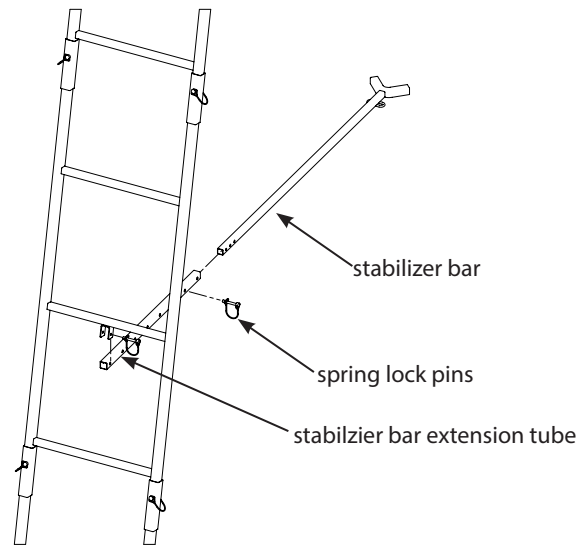

Figure 22
19. a. Attach the stabilizer bar extension tube (1ML23) to the second ladder section mounting bracket using (1) provided spring lock pin. **SEE FIGURE 22.**
b. Slide the stabilizer bar (L17) into the extension tube and attach the two pieces together using (1) provided spring lock pin. Spring lock pin must go through both the extension tube and stabilizer bar at appropriate hole to achieve desired distance from tree. Adjustment in length may be needed when ladder is uprighted later in instructions. **SEE FIGURE 22.**